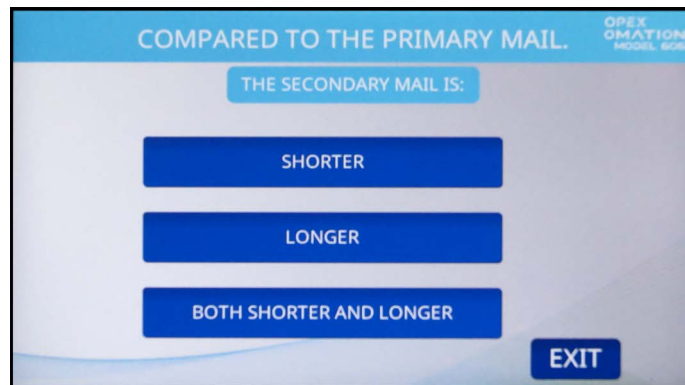

Figure 6-21: Length comparison screen
5. Choose when sorting by length, compared to the primary mail the secondary mail is (Figure 6-21):